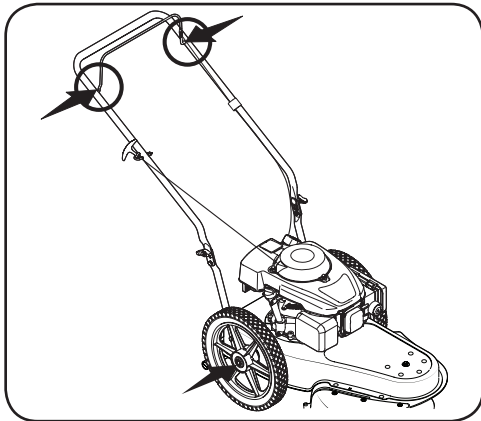

Figure 4-1
1. Lubricate pivot points on the engine control lever at least once a season with light oil. This control must operate freely in both directions. See Figure 4-1.
3. Lubricate the wheels at least once a season with light oil (or motor oil). If wheels are removed for any reason, lubricate surface of the axle bolt and inner surface of the wheel with light oil. See Figure 4-1.